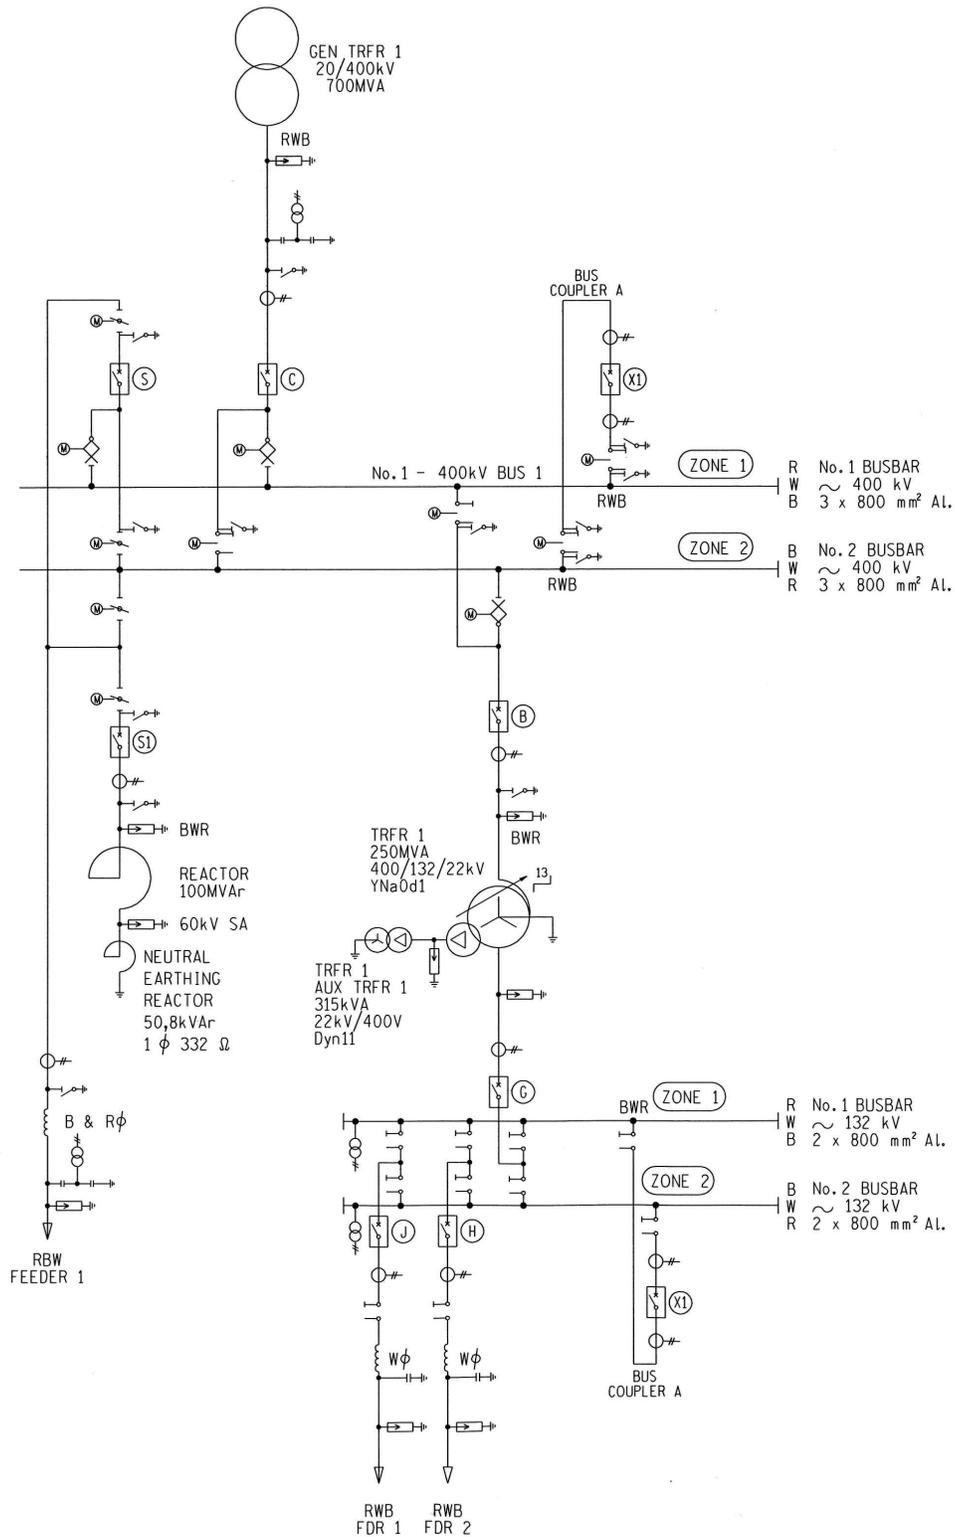

Figure 2 - Example of a Corresponding Station Electric Diagram
2. The numbering of HV equipment shall be sequential per bay as the equipment is shown on the Station Electric Diagram (refer to Figure 2).